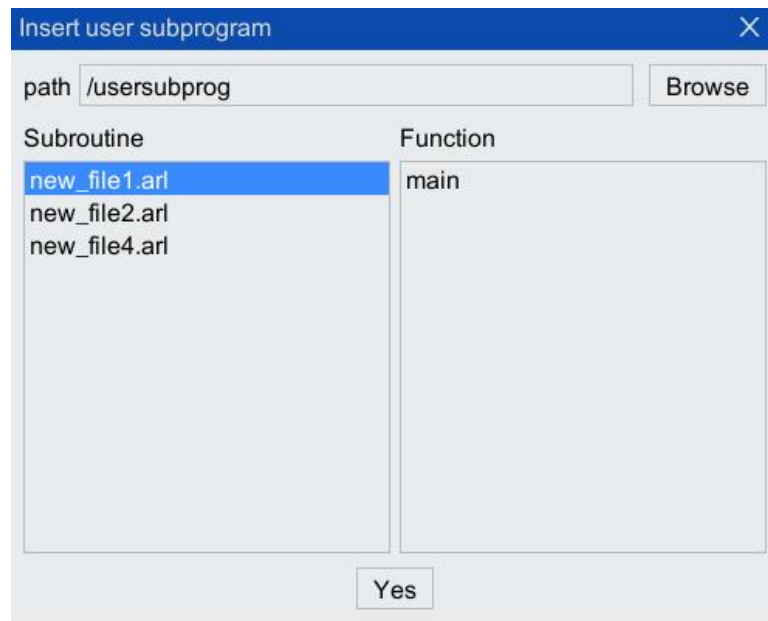
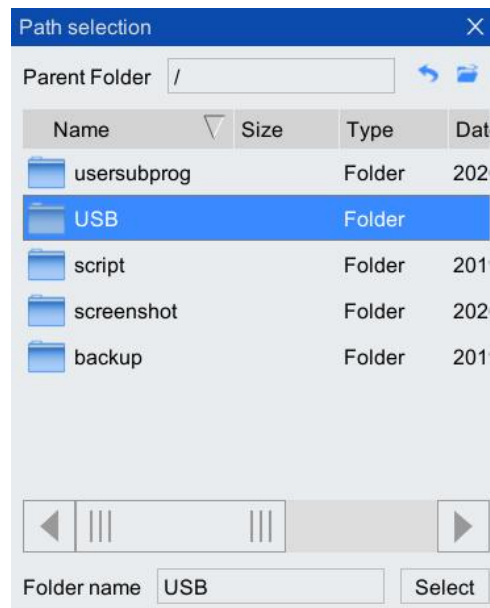

Figure 5-45 "Insert User Subprogram" interface
Figure 5-46 "Path selection" list box
- Step2. Click "Insert Instruction> User Subprog>" option in the toolbar of the program editor to pop up "Insert User Subprogram" interface, as shown in Figure 5-45. Click <Browse> button, find and highlight the folder where the subprogram to be inserted is located in the pop-up "Path Selection" dialog box, and click <Select> button, as shown in Figure 5-46.